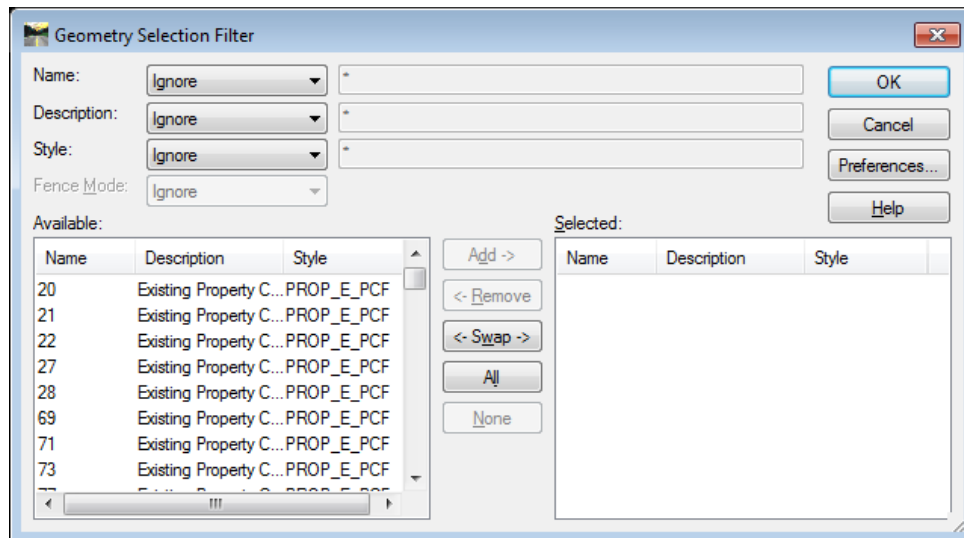

Figure L10-3 Geometry Selection Filter
- Click the **Filter** button to open the **Geometry Selection Filter** dialog box. See *Figure L10-3* (as shown below).